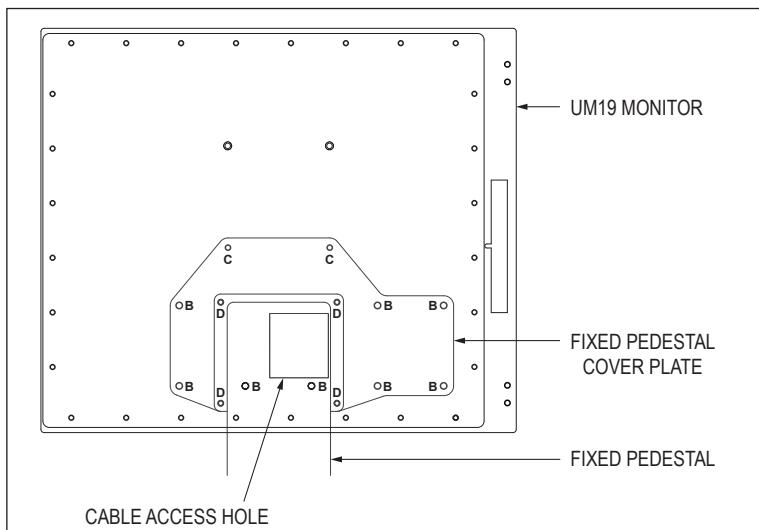

FIGURE 3
6. Refer to Figure 3. Route cables through the cable access hole on the fixed pedestal cover plate.
7. Install the provided two M4 sealing screws and washers in the locations marked "C" in Figure 3.
8. Use the eight 10-32 screws and washers that were removed in step 4 and install them in the locations marked "B" in Figure 3. Tighten all screws until the gasket is approximately 1/16" to 3/32" thick.
9. Refer to Figure 3. Route cables into the pedestal by positioning and supporting the monitor so that the cables exiting from the monitor can be easily routed into the top of the pedestal.
10. Attach the monitor to the pedestal using the provided four 10-32 acorn nuts and nylon washers in the locations marked "D" in Figure 3.